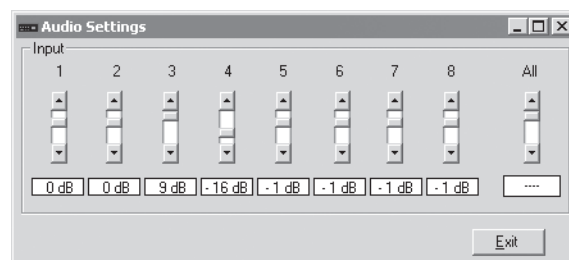

Figure 5-5 — Control program Audio Settings window
7. If desired, on the task bar, click *Tools > Audio Settings* to set each input's audio level or attenuation in the Audio Settings window (figure 5-5).